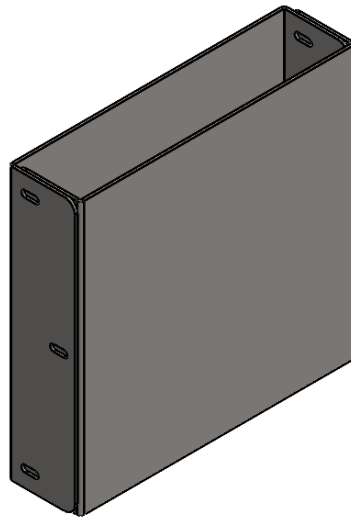

Figure 6 HEADER PROJECTION BRACKET PACKAGE
1. Find the package of Header Projection Mount Brackets, and a bag with screws, nuts and Velcro strips. (Figure 6 HEADER PROJECTION BRACKET PACKAGE)